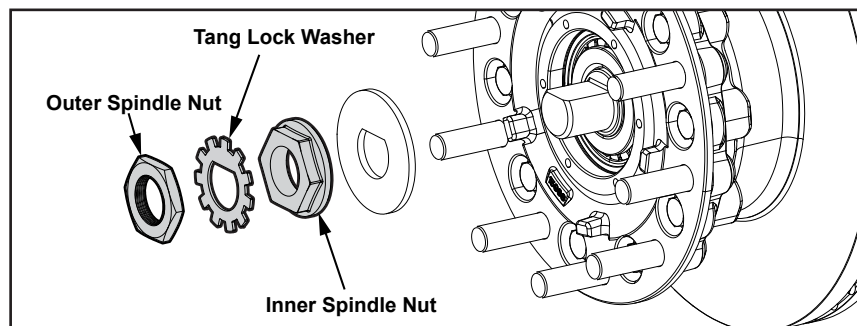

Figure 9
1. Remove the outer spindle nut and tang lock washer and set aside for reinstallation (see Figure 9).